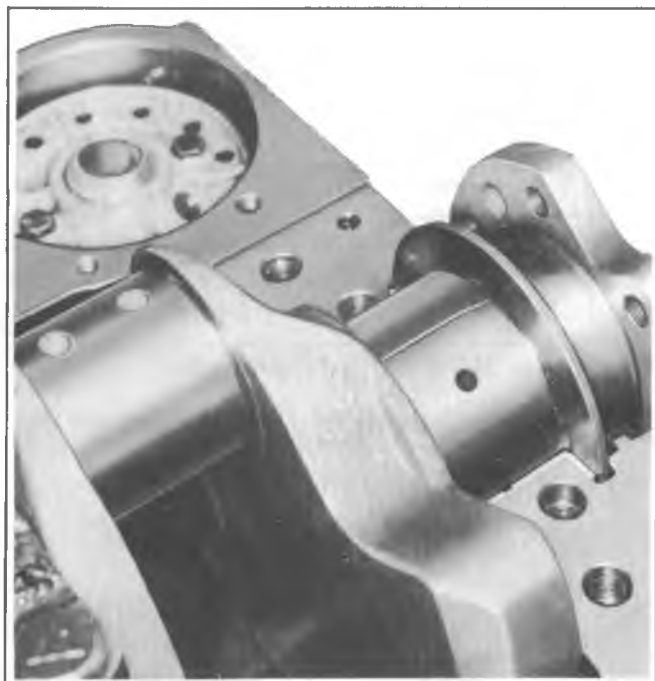

Fig. 6A5-44--Gaging Plastic on Journal
2. Place a piece of gaging plastic the full width of the bearing (parallel to the crankshaft) on the journal (fig. 6A5-44). Do not rotate the crankshaft while the gaging plastic is between the bearing and journal.